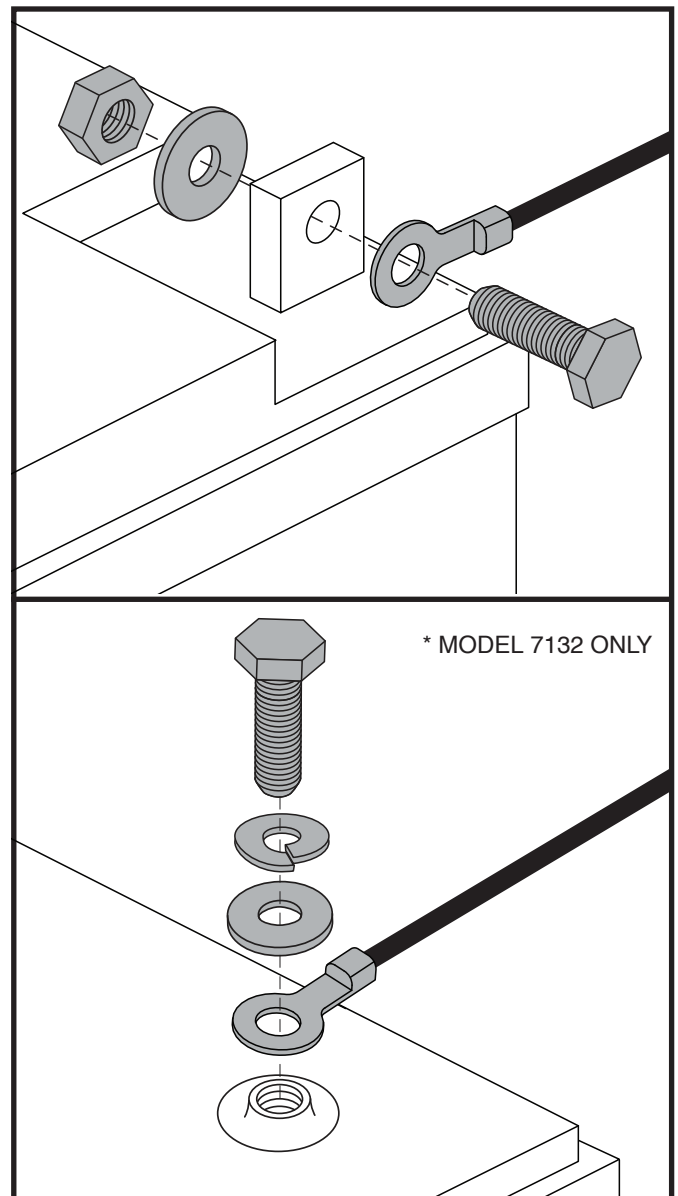

Figure 16. Battery Terminal Hardware
4. Disconnect the battery cables from the battery terminals by sliding back the terminal boots and unscrewing the nut from the bolt. See figure 16.
**WARNING!** When faced with an emergency situation, the batteries can be quickly disconnected by pulling **FORWARD** on the emergency battery disconnect strap. Use caution. Be advised that turning off power to the scooter may cause the scooter to stop abruptly. To release the emergency stop and restore driving capability to the scooter, remove the seat and battery shroud, and reconnect the battery connector as shown in Figure 16.